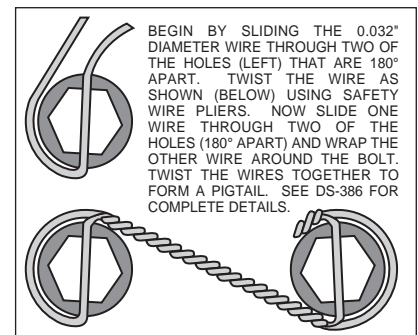

Figure 3. Safety Wire Diagram
- The spindle and caliper bracket (1) have been assembled at the factory for alignment purposes. Loosen the two bolts that secure the brackets together so that the bolts are hand tight only, this will enable the bracket assembly (1) to be adjusted to accommodate various spindle tolerances during assembly. Bolt the lower portion of the bracket assembly (1) to the backing plate face of the spindle using two bolts (2) and two lock nuts (3), hand tighten only. Install bolt (5) through caliper bracket (1), placing the spacer (4) between the bracket and the steering arm. Torque two bolts (2) to 40 ft-lb. Apply red *Loctite*® 271 to the bolt threads (5) and torque to 120 ft-lb. Remove one of the bolts that secure the bracket assembly (1) to each other. Apply red *Loctite*® 271 to the bolt threads and reinsert into the bracket assembly. Repeat this procedure for the second bolt. Torque these two bolts to 30 ft-lb. **NOTE:** Be sure the heads of the bracket assembly (1) insert nuts are facing outward toward the wheel.
- Install five new wheel studs (6) into the hub (7). Torque to 77 ft-lb. **NOTE:** There are two five lug patterns in the hub (5 x 4.50 and 5 x 4.75). Make sure of the correct hole pattern for the correct wheel application before installing studs into hub.
- Pack the large inner bearing cone (8) with high temperature disc brake bearing grease (available from your local auto parts store) and install into the backside of the hub (7).
- Install the grease seal (9) by pressing into the backside of the hub (7).
- Attach rotor adapter (10) to rotor (11) using eight bolts (12). Using an alternating sequence, apply red *Loctite*® 271 to the threads and torque bolts (12) to 25 ft-lb. For an added measure of security, the bolts may be safety wired using standard 0.032 inch diameter stainless steel safety wire as shown in Figure 3. Please refer to Wilwood's data sheet DS-386 (available at www.wilwood.com/Pdf/DataSheets/ds386.pdf) for complete safety wire installation instructions. **NOTE:** The flat side of the rotor (11) lugs faces toward the rotor adapter (10) with the dished side of the rotor adapter (10) facing away from the rotor (11).